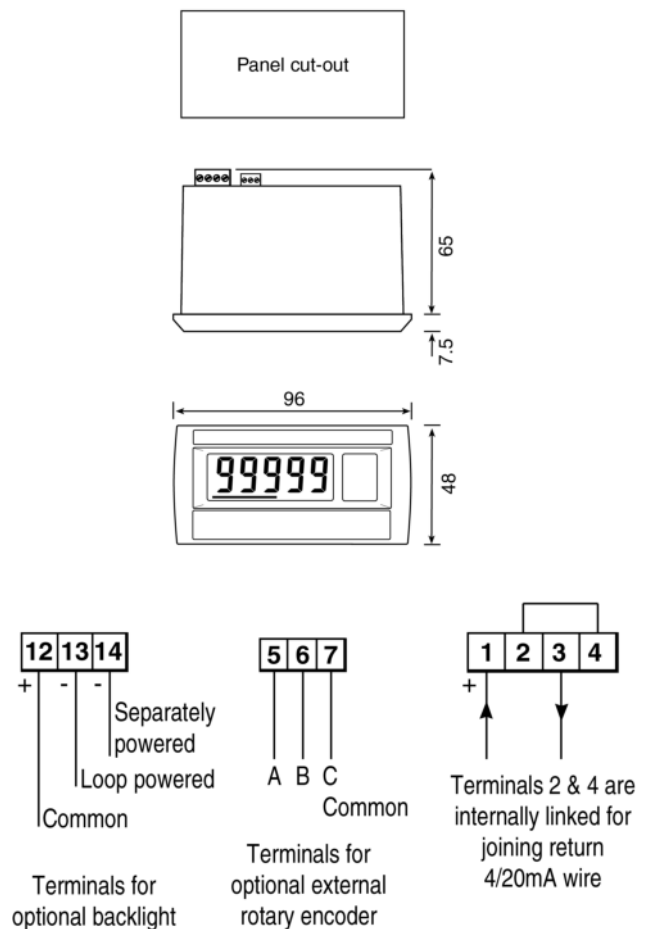

Fig 3 BA627E dimensions
Fig 3 shows the overall dimensions of the BA627E together with the recommended panel cut-out dimensions. To achieve an IP66 seal between the instrument enclosure and the instrument panel an aperture with the recommended tolerance should be used.
- Cut the specified aperture in the panel. To achieve an IP66 seal between the instrument enclosure and the instrument panel the aperture must have the dimensions specified in Fig 3.
- Connect the panel wiring to the rear terminal block(s) as shown in Fig 3. To simplify installation, the terminals are removable so that the panel wiring can be completed before the instrument is installed. Wiring should be secured to prevent vibration damage.